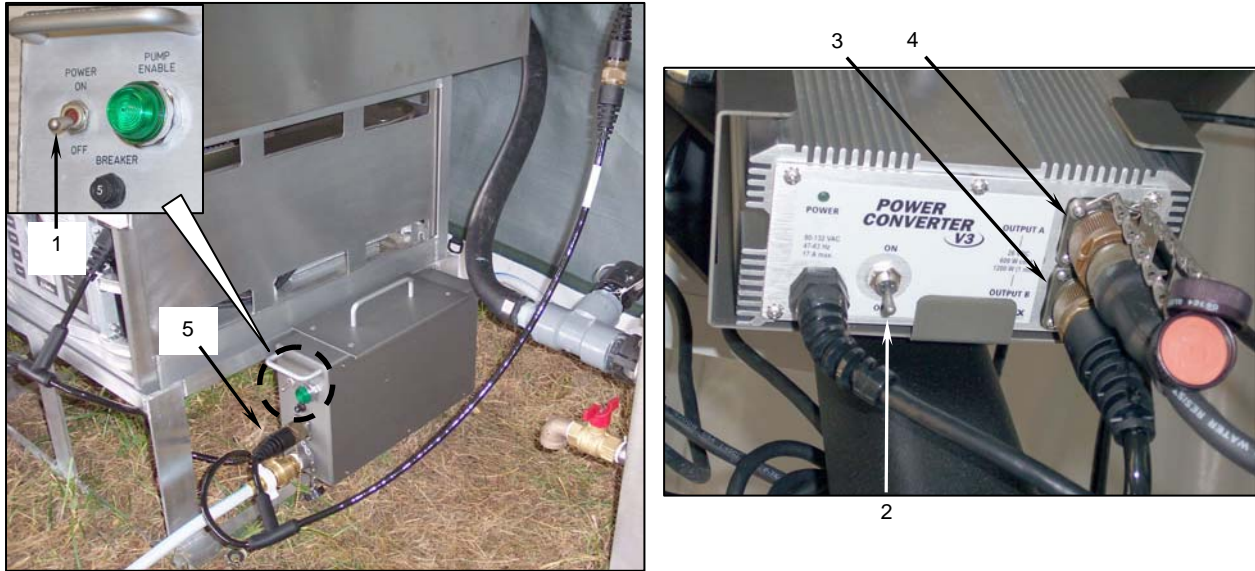

Figure 1. Removing Power from the Sink Fill Pump Assembly.
- b. Switch off the sink fill pump assembly power switch (**Figure 1, Item 1**).
- c. Switch off the power converter power switch (**Figure 1, Item 2**).
- d. Disconnect both DC cables (**Figure 1, Item 3**) and (**Figure 1, Item 4**) from the power converter and cap the connectors.
- e. Disconnect the two-branch power cable (**Figure 1, Item 5**) from the sink fill pump assembly and cap the connector.